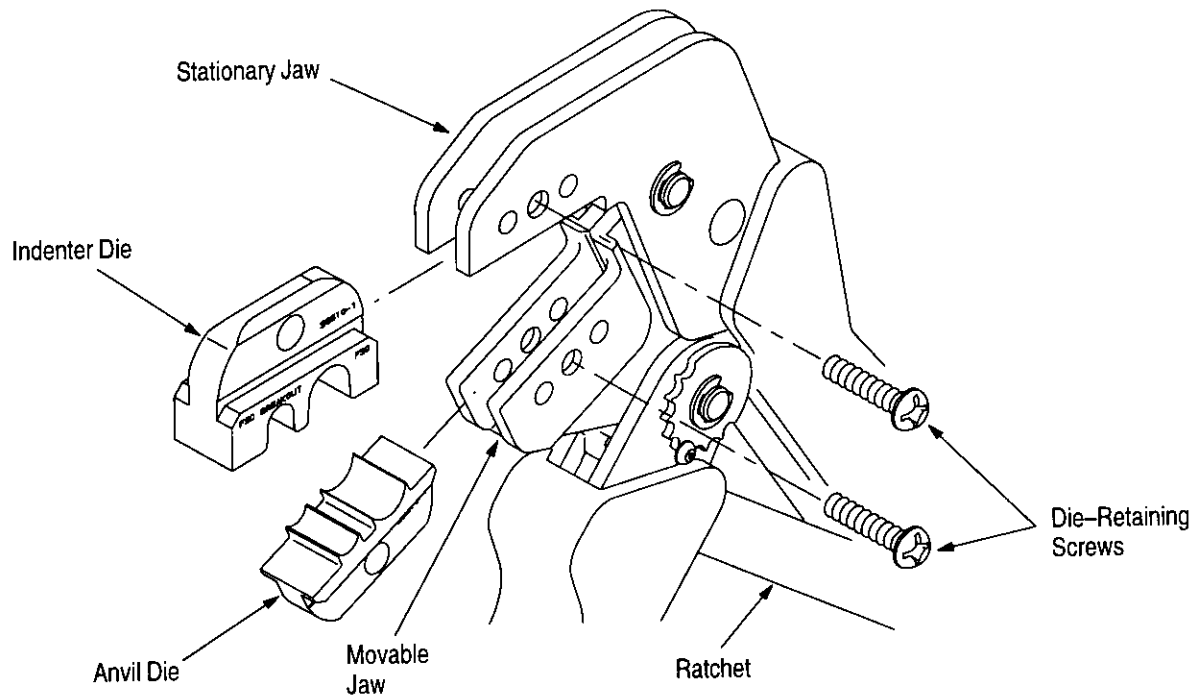

Figure 2
The die assembly features an indenter die and an anvil die. When closed, the dies form two crimping chambers, which crimp the crimp ring of the connector onto the connector strain relief and the cable strength members. The larger crimping chamber is used to crimp FSD connectors. Both chambers are used for the breakout kit assembly: the larger to crimp duplex crimp rings and the smaller to crimp simplex crimp rings. Each die is held in the tool jaws with a single screw. See Figure 2.
3. DIE INSTALLATION (Figure 2)